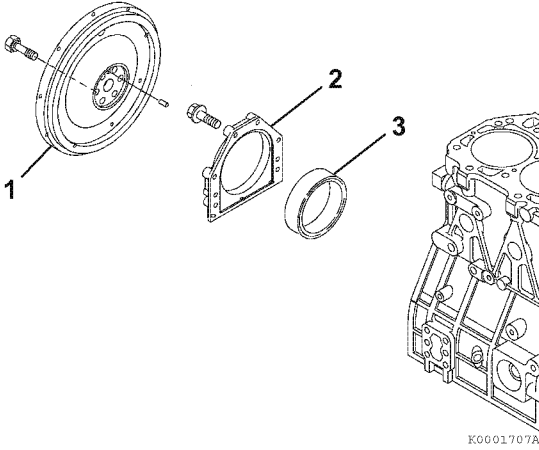

Figure 6-58
1. Remove the flywheel (**Figure 6-58, (1)**) from the crankshaft.
2. Remove the bolts from the rear oil seal assembly (**Figure 6-58, (2-3)**). Remove the assembly from the engine.